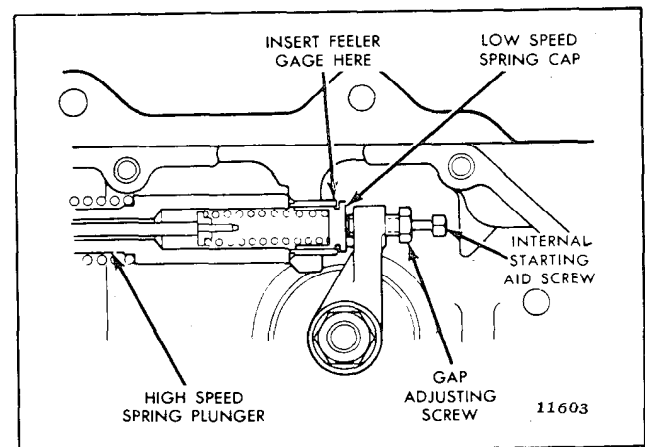

Fig. 3 - Governor Gap Adjustment
6. Check the gap between the low-speed spring cap and the high-speed spring plunger (Fig. 3) with a .0015 " feeler gage. If the gap setting is incorrect, reset the gap adjusting screw. If the setting is correct, the .0015 " movement can be seen by placing a few drops of oil into the governor gap and pressing a screw driver against the gap adjusting screw. Movement of the cap toward the plunger will force the oil from the gap in the form of a small bead.
Certain engines use spring-loaded injector control tube assemblies which have a yield spring at each injector rack control lever and only one screw and lock nut to keep each injector rack properly positioned. Adjust the single screw and lock nut on each injector rack control lever the same as for the two screw rack control lever (refer to Fig. 3 for 6, 8 and 12V-71 engine governor). Properly positioned injector rack control levers with the engine at full load will result in the following: